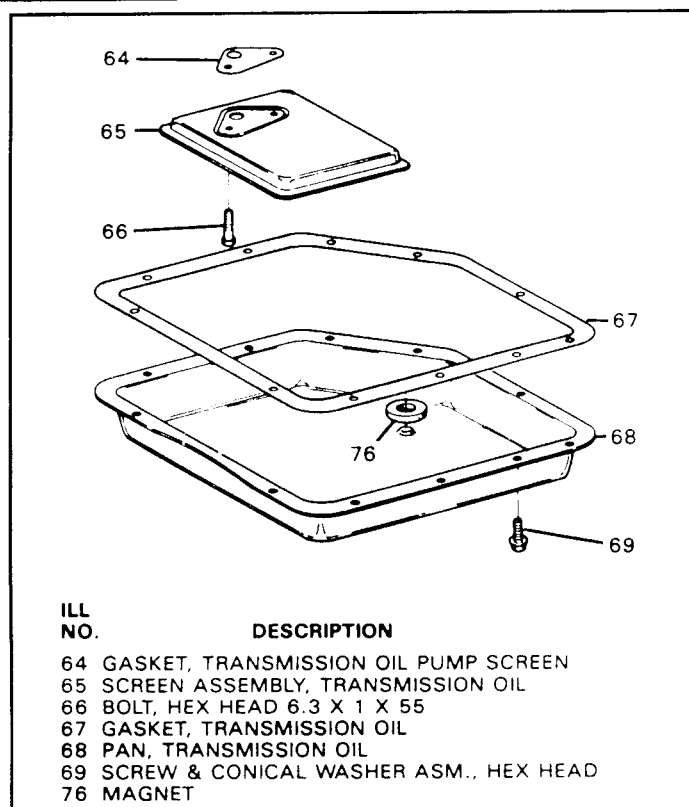

Figure 38
23. Remove the two oil screen retaining bolts, and remove the oil screen (See Figure 38).